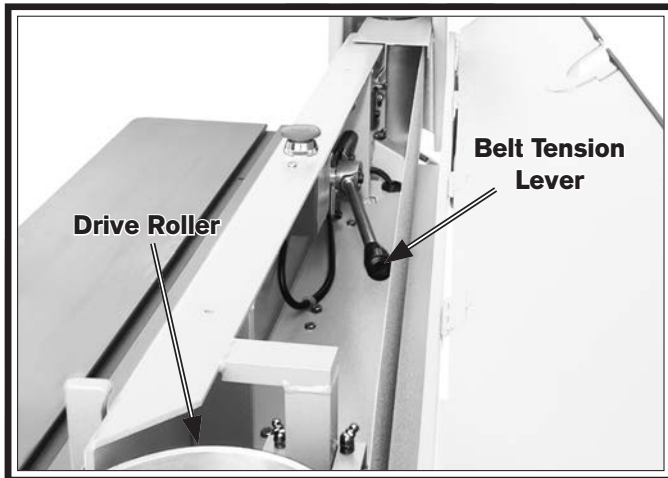

Figure 21. Sanding belt installed and tensioned.
- Move belt tension lever down, toward drive roller, to tension sanding belt (see **Figure 21**).